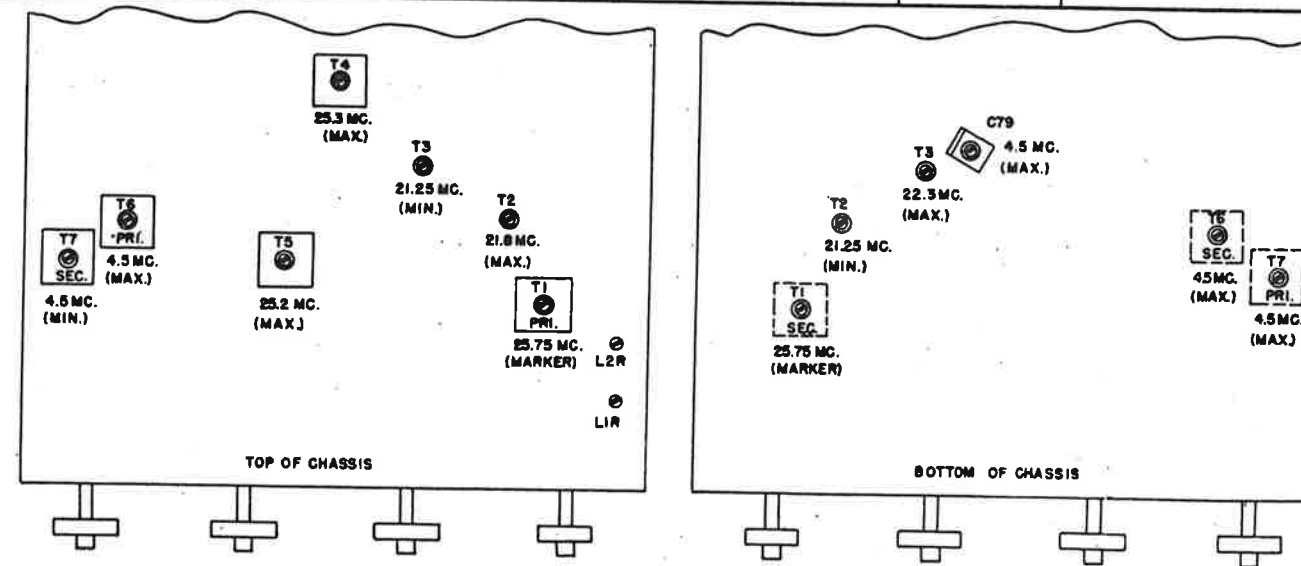

Figure 5-5—Location of Alignment Points
- 5) Refer to figure 5-5 for alignment points, figure 5-6 for response curves and figure 5-11 for schematic diagram.
- 2) Refer to figure 5-5 for alignment points; refer to figure 5-6 for response curves; refer to figure 5-11 for schematic diagram.